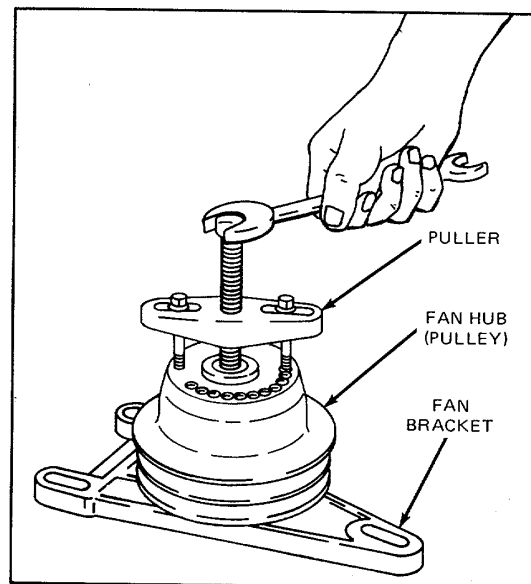

Figure 3. Removing Fan Hub (Pulley)
2. Remove the fan hub from the shaft with a puller as shown in Fig. 3.